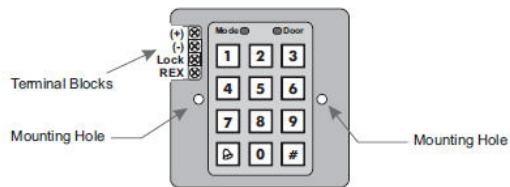

Figure 2 : SA1DP Controller - Mounting Holes and Terminal Blocks
3. Screw the SA1DP controller onto a US Gang Box through the 2 Mounting Holes provided (see figure 2).